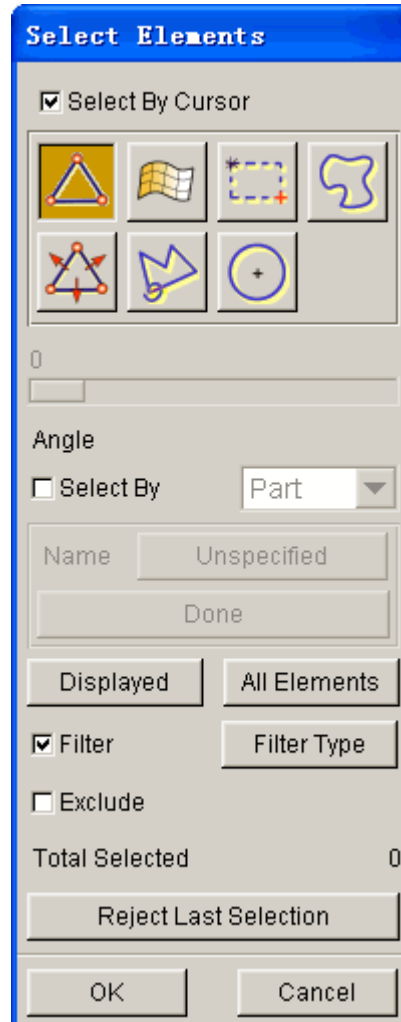

Figure 4.4.3 Select Element dialog box
- Click on ELEMENT(S) button to open the SELECT ELEMENTS dialog box as shown in Figure 4.4.3. There are three options available for selecting elements in the display screen and/or active database. They are SELECT BY CURSOR, SELECT BY, selection by Displayed (elements on the display screen) and All Elements (in active database).